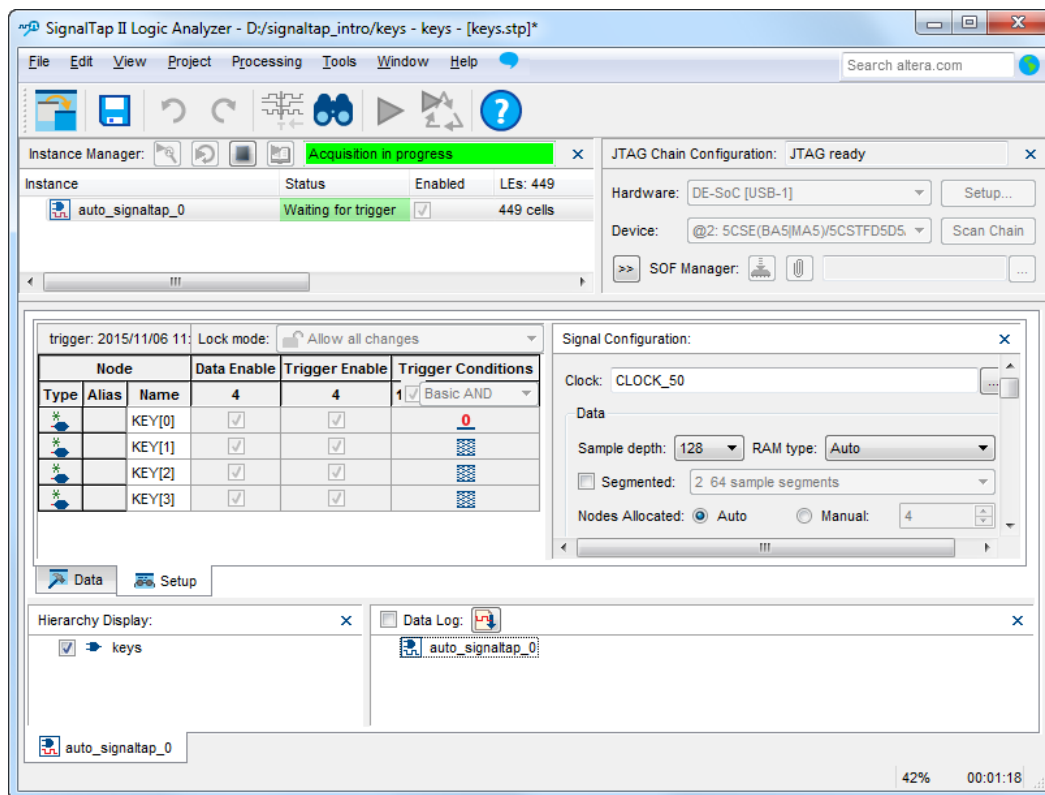

Figure 12. SignalTap II window on a DE-series board after Run Analysis has been clicked.
1. On the DE-series board, first ensure that none of the keys (0-3) is being pressed. We will try to probe the values of these keys once key 0 is pressed.
2. In the SignalTap window, select **Processing > Run Analysis** or click the  icon. Then, click on the Data tab of the SignalTap II Window. You should get a screen similar to Figure 12. Note that the status column of the SignalTap II Instance Manager pane says "Waiting for trigger." This is because the trigger condition (Key 0 being low) has not yet been met.